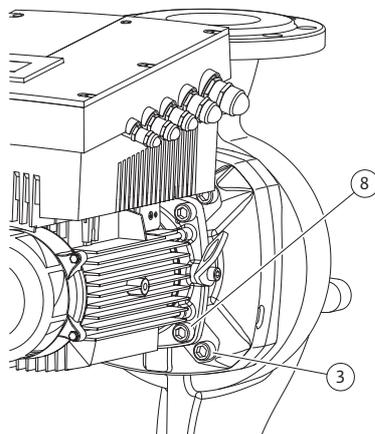

Fig. 49: Optional fixation of the motor impeller unit
16. Depending on the pump type, loosen the screws (Fig. 7, Item 10) or alternatively, the screws (Fig. 49, Item 8).
22. Carefully push the lantern over the shaft and position it in the old position or another desired angular position to the motor flange. Observe the permitted installation positions of the components when doing this (see chapter 7.1 "Permitted installation positions and change of the arrangement of components before the installation" on page 83). Attach the lantern with the screws (Fig. 7, Item 10) **or** – for the pump/lantern types in accordance with (Fig. 49) – with the screws (Fig. 49, Item 8) at the motor flange.